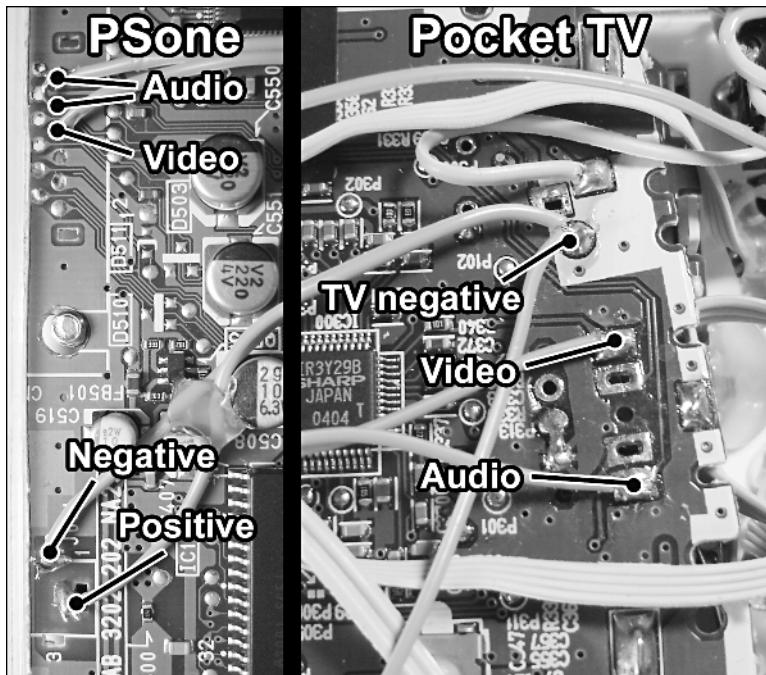

FIGURE 14-22: The audio, video, and power connections between the PSOne and pocket TV.
3. Take the *To TV negative* wire and connect it to the spot on the TV's circuit board shown in Figure 14-22. Attach another 10" wire to this same spot, and connect it to the negative DC input spot on the PSOne board.